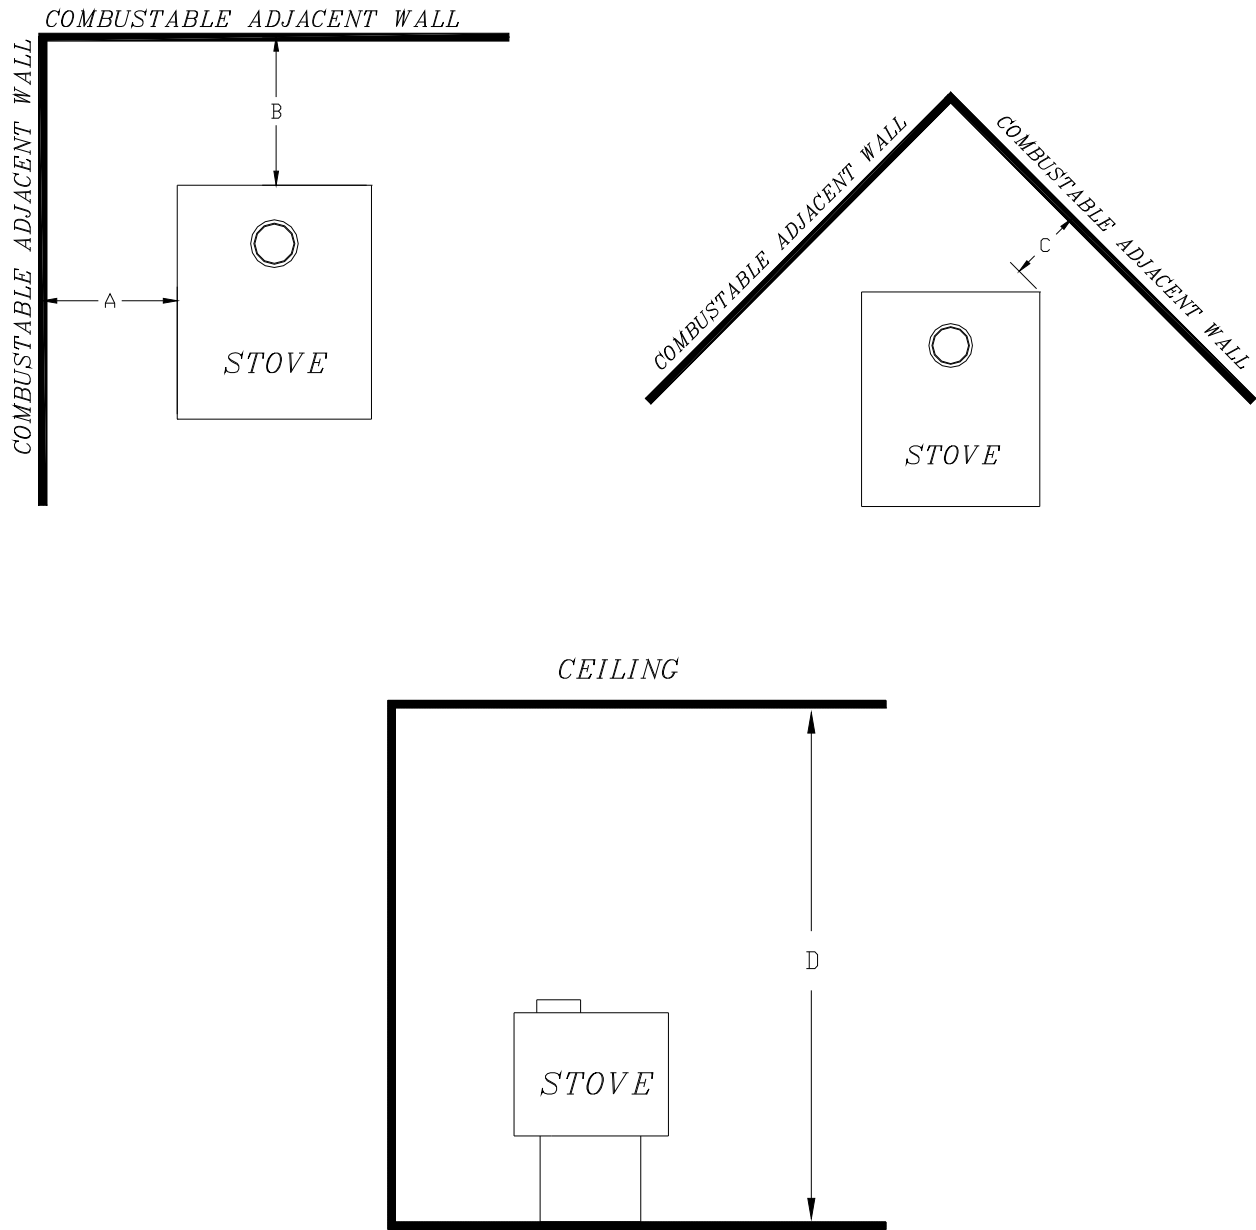

Figure 1.3 Clearances to combustable materials
**See Figure 1.3 on the following page